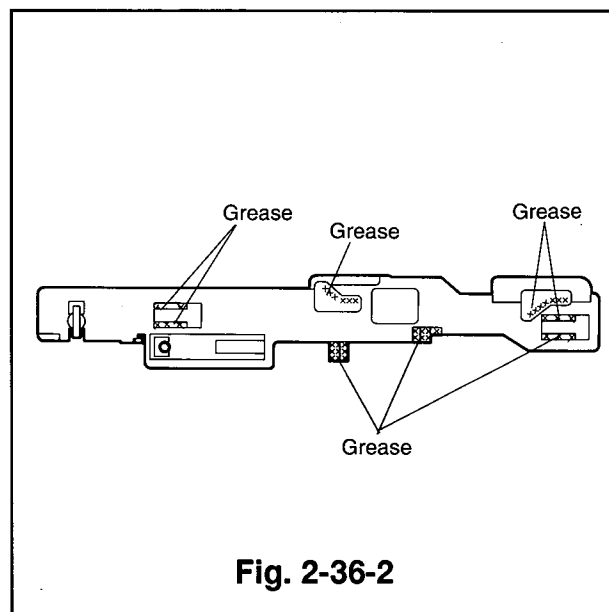

Fig. 2-36-2
- ① Apply grease(PG-641)[859D055O30] to the area shown in Fig. 2-36-2 of the new cam plate-C.